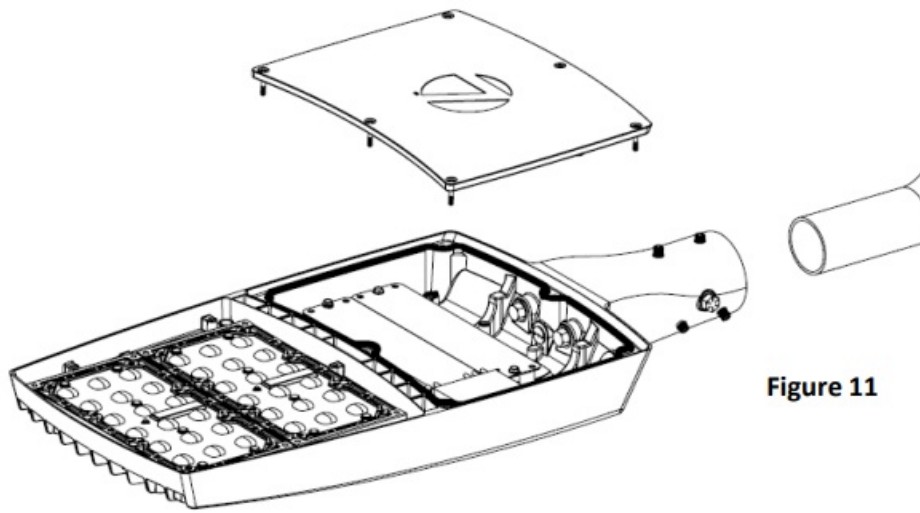

Figure 11
8. Make sure that wires and door tethers are not pinched, and that the door gasket is still snugly in its groove on the door. Reinstall the mounting door (Fig 11) that was removed, and tighten the six captive screws with the 5/32 Allen wrench to 25-30 in-lbs. (overtightening can cause thread stripping and void all warranties).